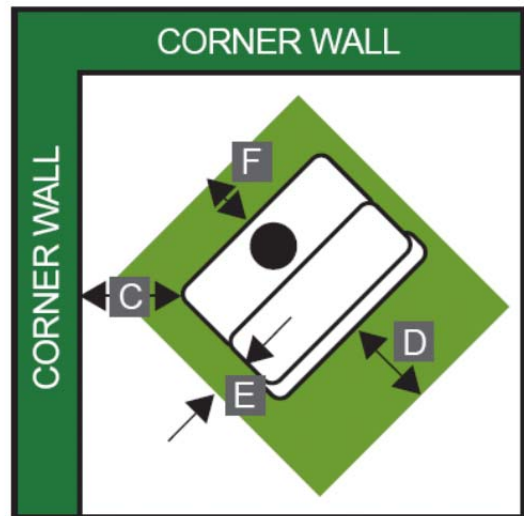

Figure 2
- The following clearances must be met (see Figure 2)